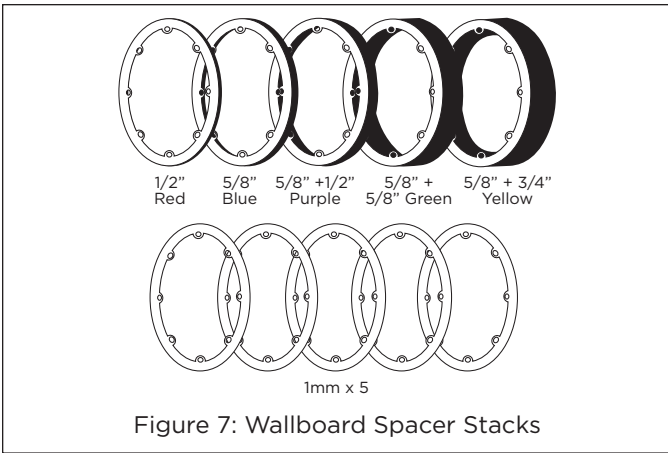

Figure 7: Wallboard Spacer Stacks
- Determine the surface depth and select the appropriate spacers. Spacers may be stacked together along with the included 1mm shims to accommodate the required depth from the speaker opening to the final drywall surface (see Figure 7).